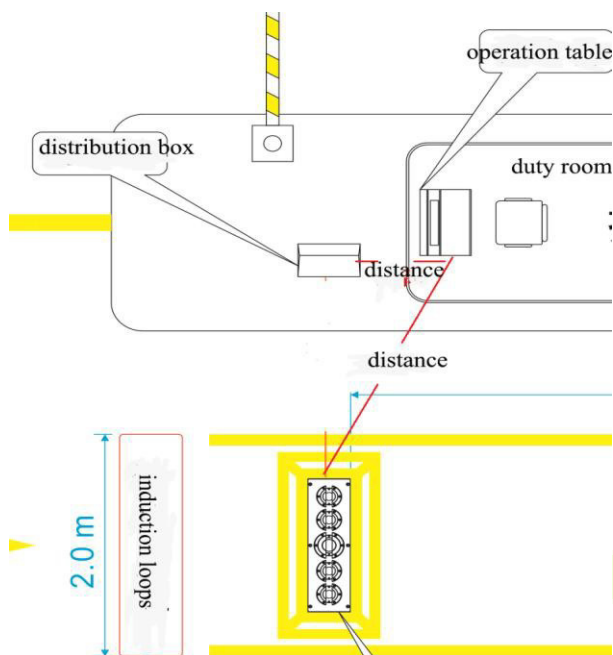

Figure 2-4
4. Operation table's installation location, what's the distance between operation table and scanning units & and what's the distance between operation table and distribution box? See Figure 2-4.